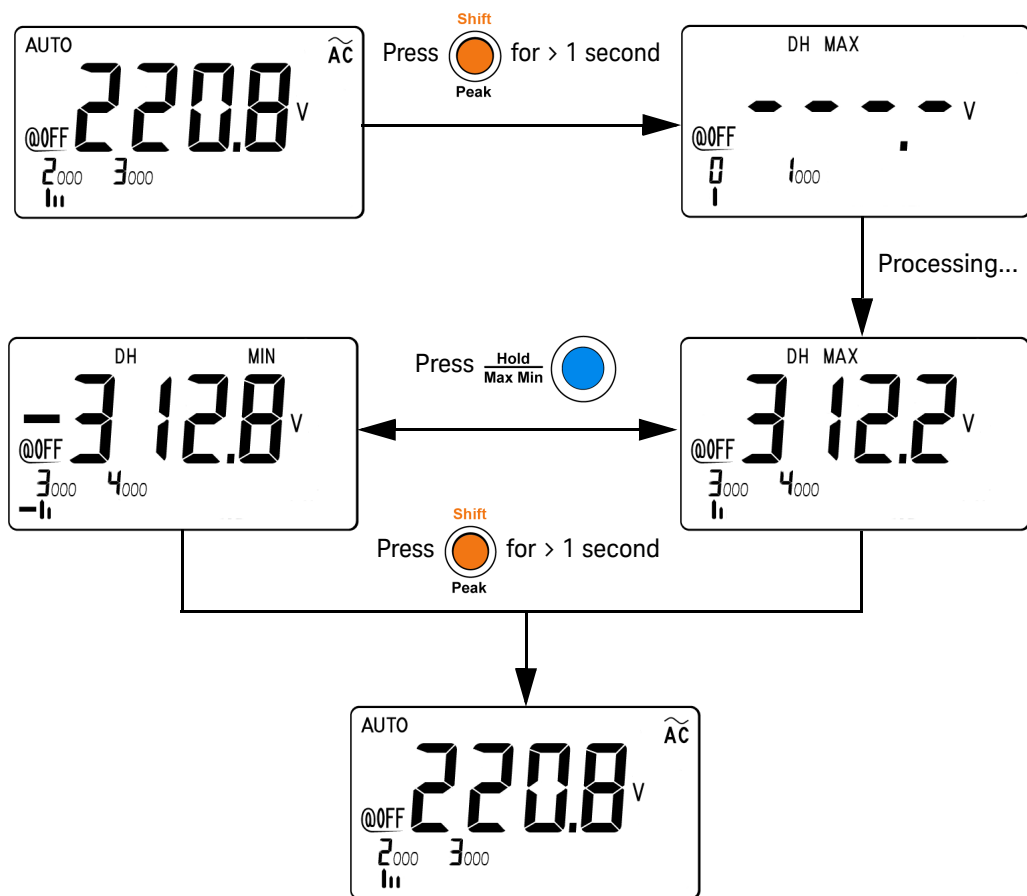

Figure 3-4 1 ms peak hold mode operation
- 4 In the measurement example shown in Figure 3-4 on page 60, the crest factor will be $312.2/220.8 = 1.414$.